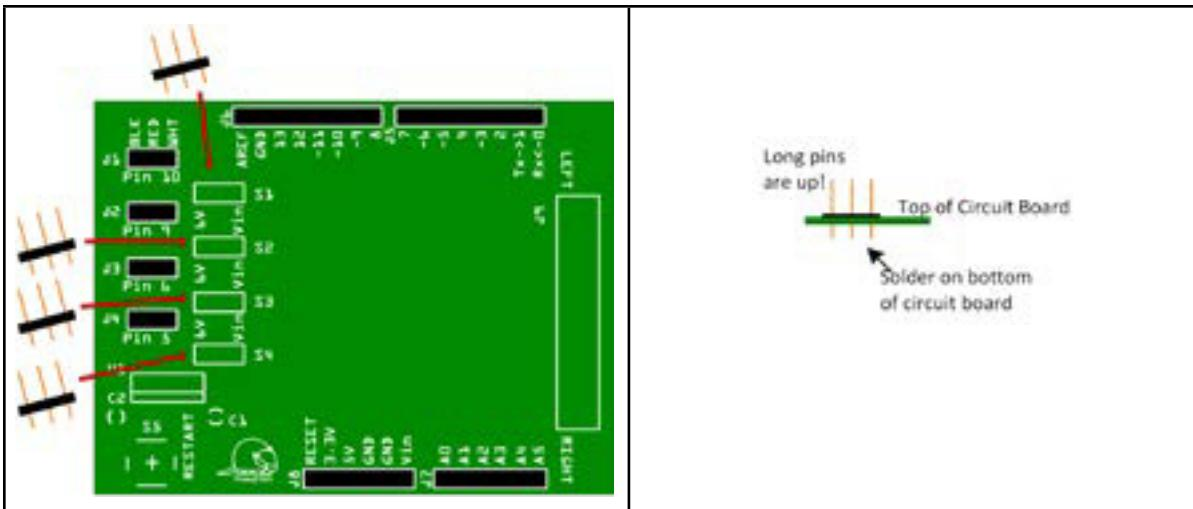

Figure HT3-9. Location to insert and solder male headers
7. Insert and solder the four male headers into the top of the circuit board through locations marked S1, S2, S3, and S4. See Figure HT3-9.